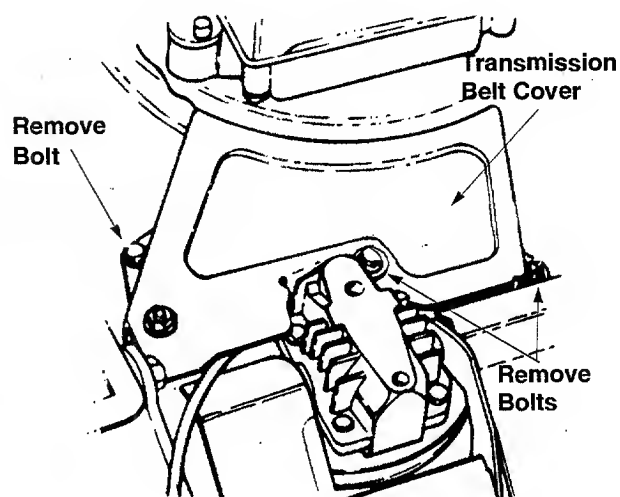

Figure 18
4. Remove the transmission belt cover by removing three bolts. See Figure 18.